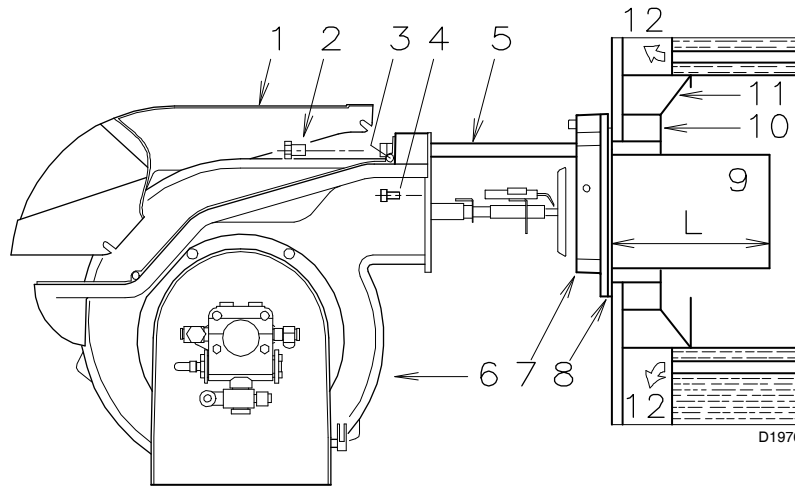

Fig. 8
For boilers having a water-cooled front the refractory fettling 10)-11) (Fig. 8) is not required unless it is expressly requested by the boiler manufacturer.
Secure flange 7) (Fig. 8) to the boiler plate interposing the supplied gasket 8) (Fig. 8). Use the 4 screws provided after having protected the thread with anticruffing products.
- Retract the burner on its slide bars as shown in (Fig. 8, page 12).